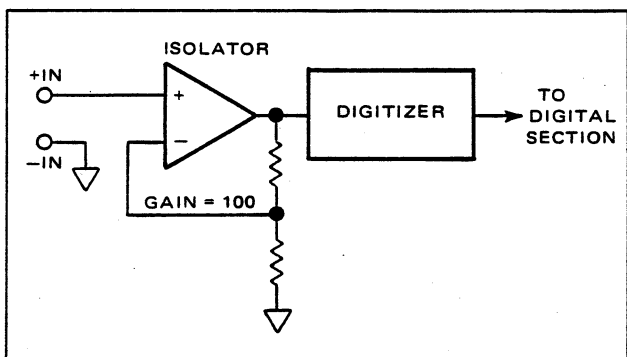

Figure 5.5 - 100 Millivolt DC Range
5.3.4.3.5 *100 Millivolt Range.* The signal from the +IN terminal is routed through the contacts of the .1+1 relay to the positive input of the Isolator. The Isolator output is applied to the Gain Resistor string through the normally closed contacts of the Preamp Select relay. A feedback signal from the Gain Resistor string is applied to the negative input of the Isolator (through the normally closed contacts of the 1+100 relay and the normally open contacts of the .1+1 relay) to obtain a closed loop gain of 100. The -IN terminal is connected to analog common through contacts of the Ohms relay, and to the lower end of the Gain Resistor string through contacts of the .1+1 relay. A simplified block diagram is shown in Figure 5.5.